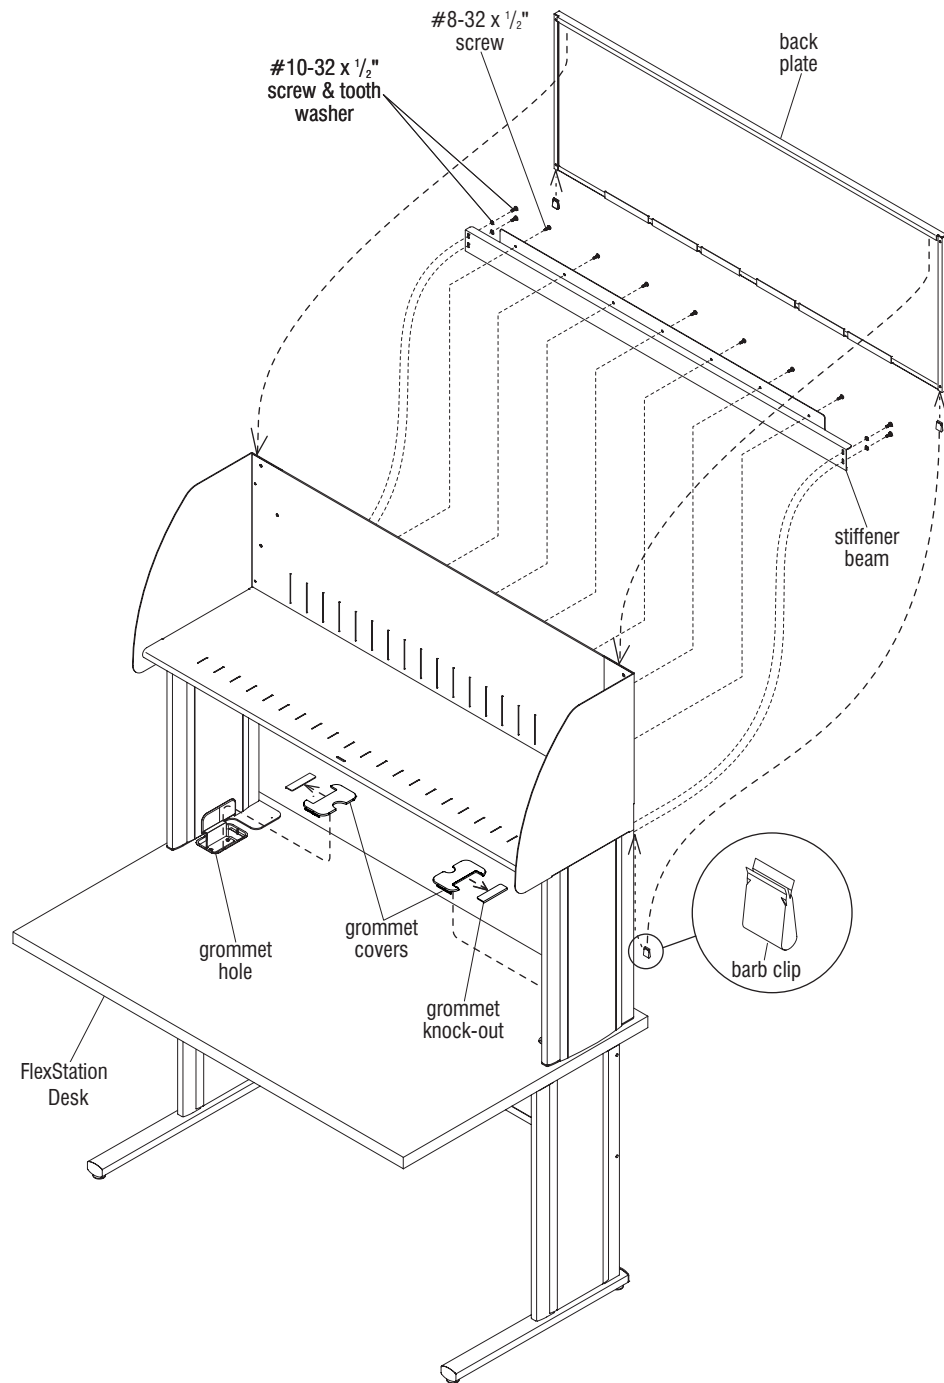

Figure 8
7. Position the stiffener bar as illustrated to the lower rear of the back shelf, align mounting holes and secure beam to shelf back using the required number of #8-32 x 1/2" screws. Also, at each end of the stiffener beam, use two #10-32 x 1/2" screws with tooth washers and secure the beam to the top rear of the right- and left-hand stanchions (Figure 8).
8. Orient the back plate as illustrated behind the shelf, then hang it onto the back of the cabinet such that the top vertical flange of the back plate captures the top inside edge of the shelf back. Use the two barb clips provided and press them up at the underside of the cabinet to attach the bottom of the back plate to the bottom, rear of the shelf back (Figure 8).
9. Take grommets removed in step one and remove the knock-outs from each. Snap the grommets back into place in the grommet hole at the installed stanchions (Figure 8).